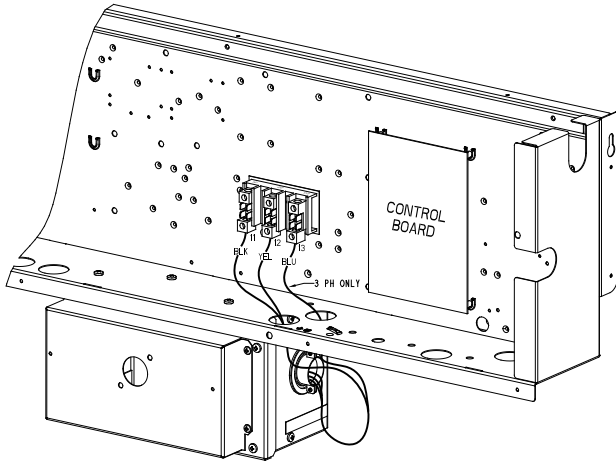

Fig. 19 — NFD Enclosure Location
1. Remove the Control Box access panel. The NFD enclosure is located below the Control Box (see Fig. 19).